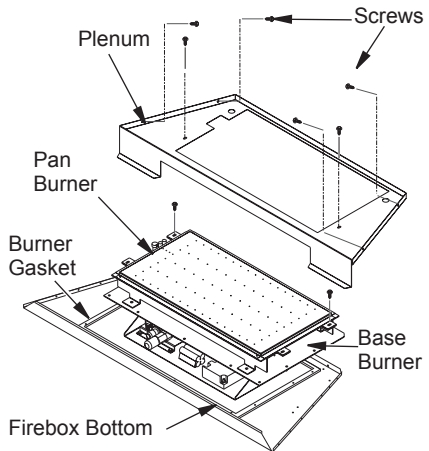

Figure 26 - Removing/Installing Burner Base
3. Remove 6 screws to disengage plenum (see Figure 26).
6. Remove 9 screws from front and sides of firebox burner base. Lift entire base from unit by pulling forward to disengage from rear flange and then lifting up (see Figure 26).